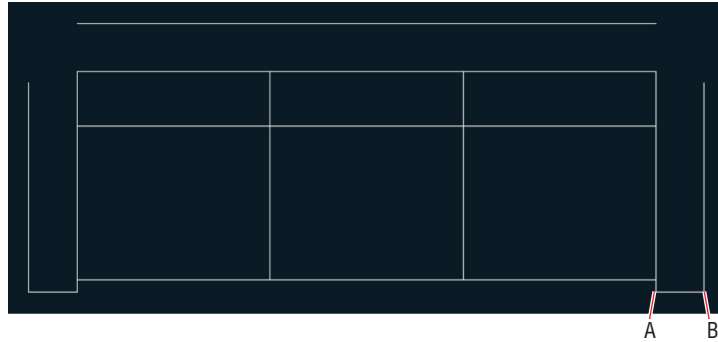

FIGURE 9.5 Offsetting the back of the sofa a distance equal to the thickness of the armrests
10. Click the Offset tool on the Modify panel. Click points A and B in Figure 9.5 to set the offset distance. Select the back line of the sofa and then click above it to offset another line.